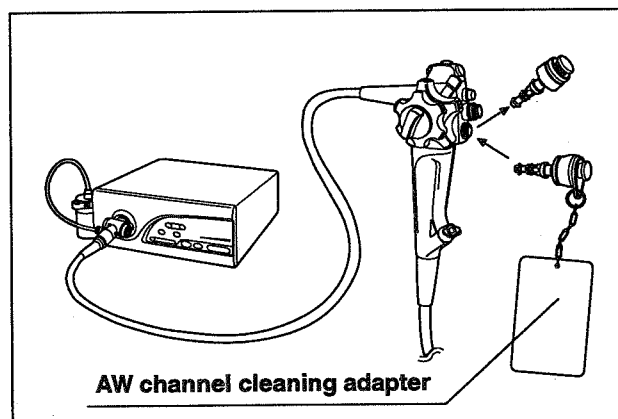

Figure 3.11
2. Remove the air/water valve from the endoscope and place it in a container of detergent solution (see Figure 3.11).
3. Attach the AW channel cleaning adapter to the air/water cylinder of the endoscope (see Figure 3.11).